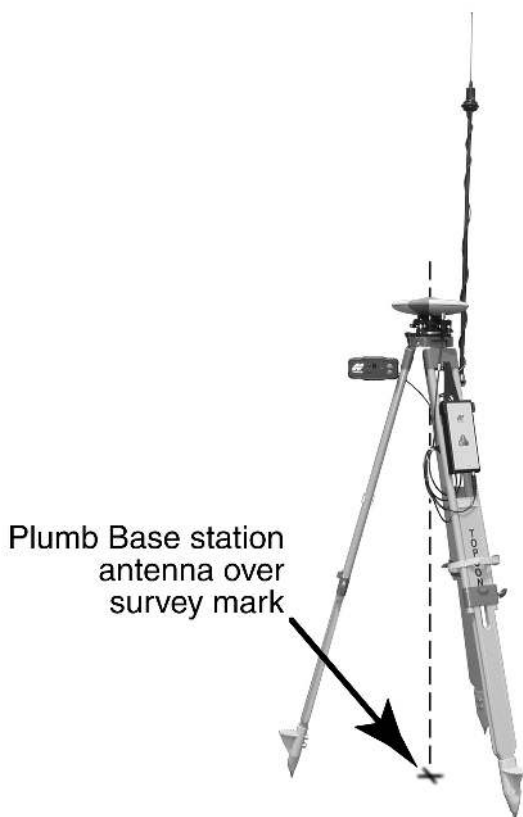

Figure 3-8. Legacy-E Base Station Setup
3. Set up hardware as shown in Figure 3-8. This setup shows a Legacy-E Base station setup.